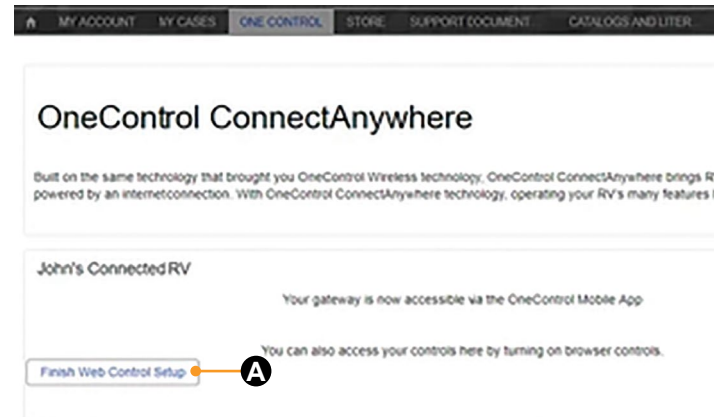

Fig.35
6. Prompts to add gateway information (Fig.35) will appear.
6. After access is granted, the system will activate and return to the ConnectAnywhere landing page (Fig.35).